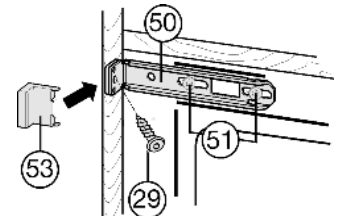

Fig. 18
- ▶ Loosen the screws *Fig. 18 (51)* a little.
- ▶ Tightly screw the top mounting bracket *Fig. 18 (50)* to the unit wall using Spax screw *Fig. 18 (29)*  $\varnothing 4 \times 19$ .
- ▶ Break off the projecting end of the cover *Fig. 18 (53)*.
- ▶ Tighten the screws *Fig. 18 (51)*.
- ▶ Put on the cover *Fig. 18 (53)*.